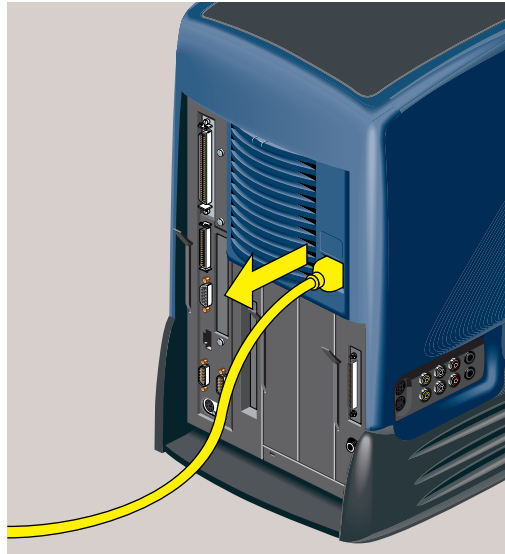

Figure 5-36 Removing the Power Cable
2. Remove the power cable from the rear (Figure 5-36).